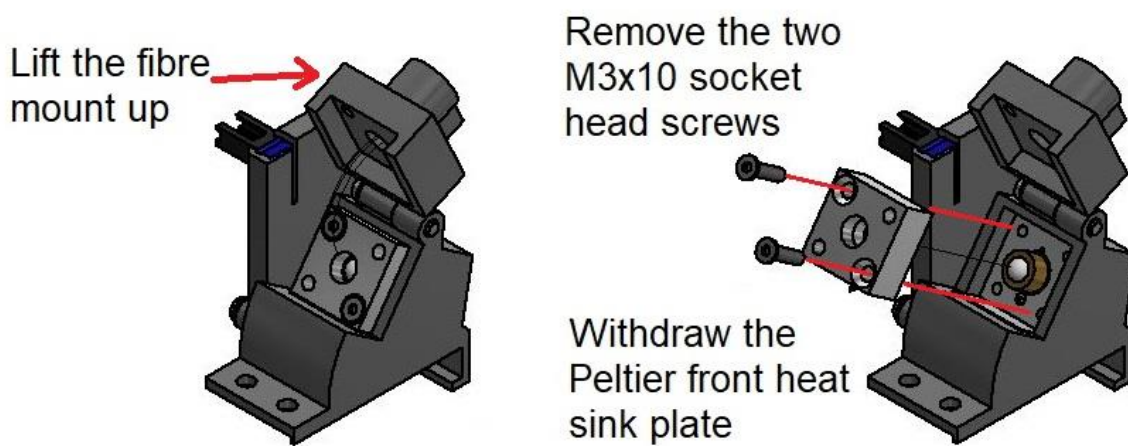

Figure L-6 Remove the Peltier front heat sink to access the diode
6. Lift the fibre mount up and unfasten the two M3 x10 socket head screws as shown in figure L-6. Then withdraw the Peltier front heat sink from the assembly.